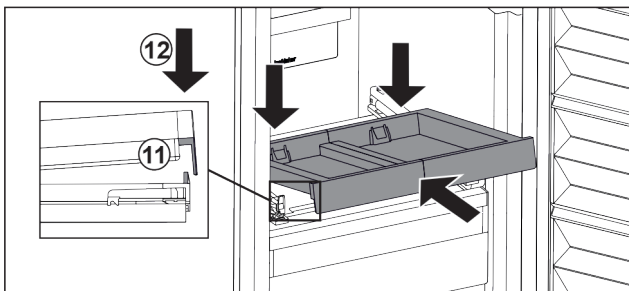

Fig. 142
- ▶ Slide in at an angle. Make sure that the stop is behind the lug on both sides. *Fig. 142 (11)*
- ▶ Lower the pull-out board at the front. *Fig. 142 (12)*